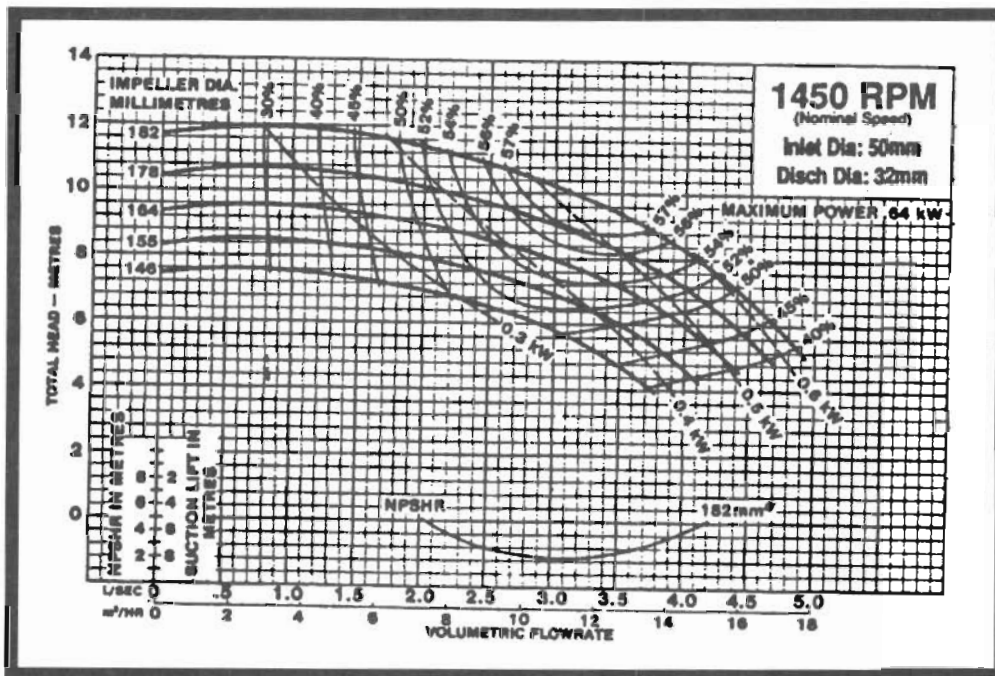

Fig. 20 - A Series of Performance Curves
Characteristics are represented by plotting head (H), power (P) and efficiency (η) against capacity (Q) as in Fig. 20.
Fig. 20 also shows a series of performance curves for the same pump. Variation occurs because the same impeller is machined to different diameters.